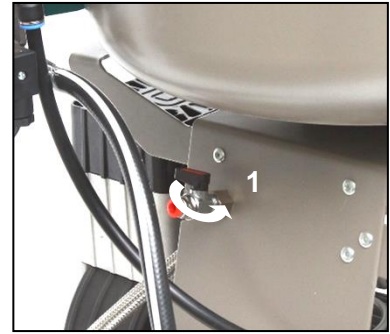

Fig. 14
Compressor shut-down for either service or any other reason is performed at the pressure switch (1) by turning the alternation switch (2) to the "0" position and **pulling the mains plug from the socket**. This disconnects the compressor from power supply. Then open the drain valve (Fig. 14) to decrease the pressure in the air tank to zero.
#### Compressors (Fig. 14)
If the compressor will not be used for a prolonged time period, drain all condensate from the air tank. Then turn on the compressor for 10 minutes, keeping the drain valve open (1) (Fig. 14). Switch off the compressor using the switch (2) at the pressure switch (1) (Fig. 13), close the drain valve and disconnect the device from the mains.
- Release air pressure in the pressure tank by opening the drain valve (1) (Fig. 14).